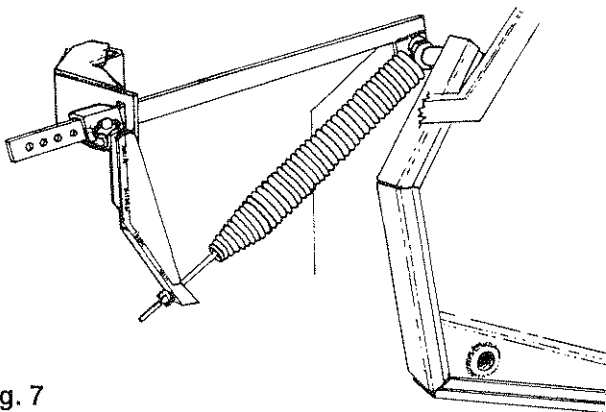

Fig. 7
3. Lower the pickup to the baling position and make sure the pickup fingers do not dig into the ground while operating. Adjust the maximum pickup depth with the depth stop, see **Fig. 7**.